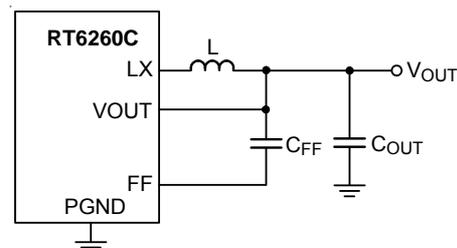
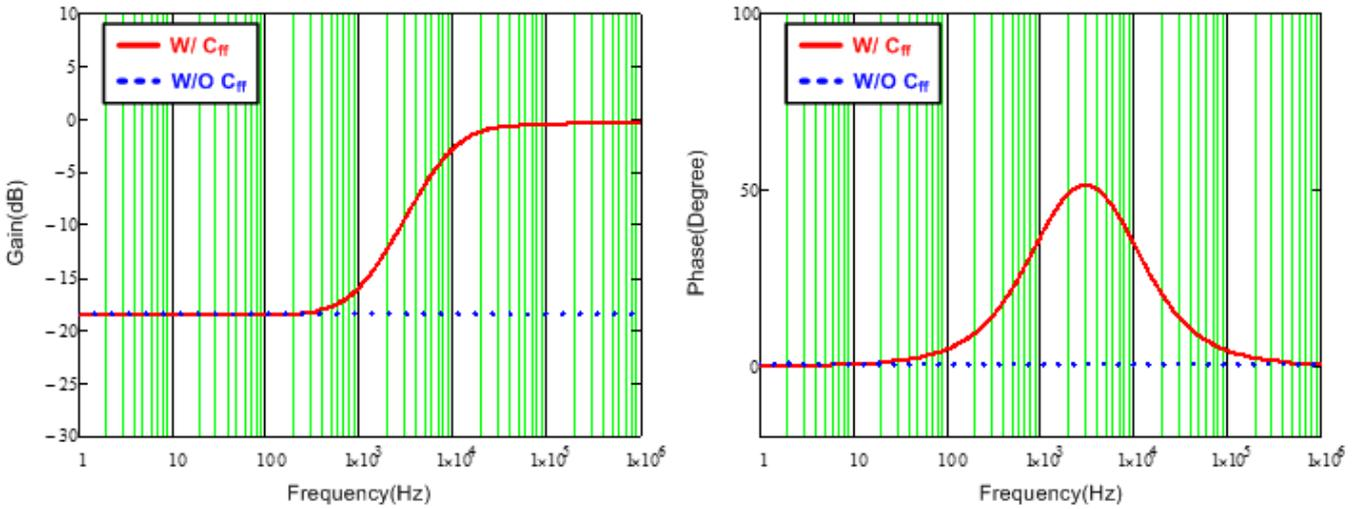

Figure 4. Feedback Loop with Feedforward Capacitor
Figure 5. Bode Plot with Different Feedback Loop Conditions
For saving time to design compensator and reducing the layout area through external components, the components of compensator are integrated in IC. However, this integrated compensator might not suit to every load transient spec. Hence, for the RT6260C to be more adaptable, the feedforward capacitor C_{FF} is used in the feedback loop to improve transient response, as shown in Figure 4. Figure 5 shows the comparison result of bode plot with different feedback loop conditions. Referring to Figure 5, through connecting a C_{FF} in feedback network, the gain and phase are raised in mid-frequency that not only can extend the bandwidth, but boost the phase margin as well. Moreover, there is also a high frequency pole to eliminate high frequency noise. Consequently, those features of feedforward feedback network allow the RT6260C have faster response to handle different load transient.
Observing Figure 5, the maximum phase boost occurs between zero and pole frequencies that is defined as maximum phase boost frequency, as expressed in equation (4). Hence, in order to achieve the maximum phase boost by adding C_{FF} in the RT6260C, the system's original bandwidth has to be located at maximum phase boost frequency.